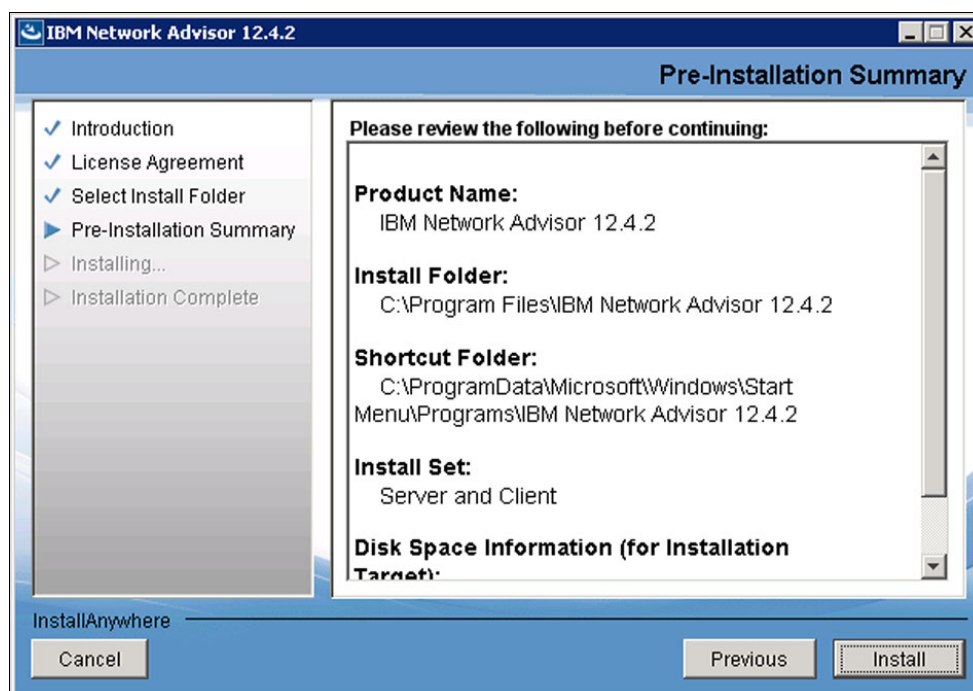

Figure 4-5 Pre-Installation Summary window
4. After you select the target location, the Pre-Installation Summary window opens, as shown in Figure 4-5. This window describes the product and the target location.